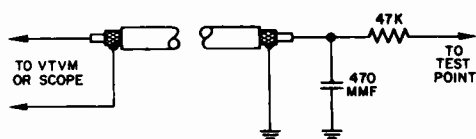

Figure 9 - Decoupling network.
**Oscilloscope and VTVM** - Use a low-capacitance direct probe terminated with the decoupling network shown in Figure 9. Keep the oscilloscope calibrated for 2 volts peak to peak (P-P). Use a VTVM range suitable for measuring -1.5 volts.